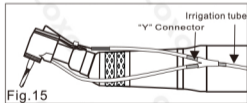

Fig.15
Connect the ends of the y-connector to the external spray nozzle and internal spray nozzles refer as detailed in procedures (1) and (2) (Fig.15/16).